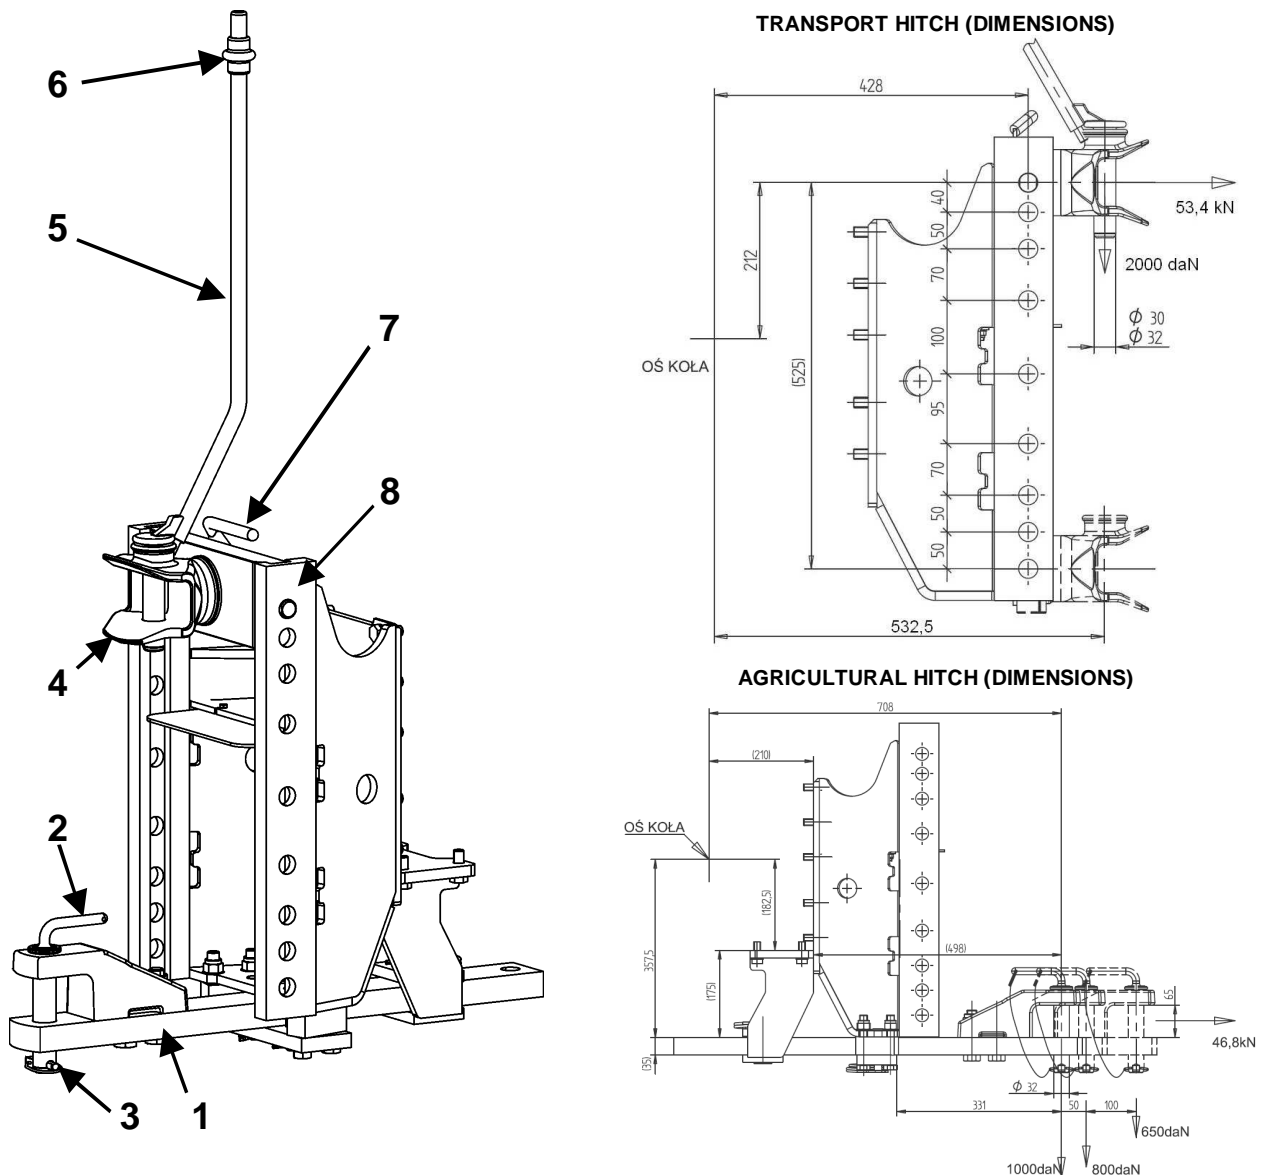

Figure 5-16 Hitching appliances of **PRONAR** tractors - construction and basic dimensions.
UPPER TRANSPORT HITCH (item 4; Figure 5-16)
In order to attach tractor trailer free pin **5** (Figure 5-16) Pulling pin lock lever **6**, remove pin from opening of hitch jaws **4**, and then introducing trailer drawbar eye in direction hitch jaws join them using the pin **7** with tractor hitch and secure with lock.
AGRICULTURAL HITCH (item 1; Figure 5-16)
PRONAR tractors are supplied with a mounted agricultural hitch **1** (Figure 5-16) designated for hitching towed machines. Agricultural hitch has the ability to change setting in horizontal plane (if required by the hitched machine) and locking (which is essential) in set position. Basic dimensions, maximum load and adjustment range of agricultural hitch are given in Figure 5-16.